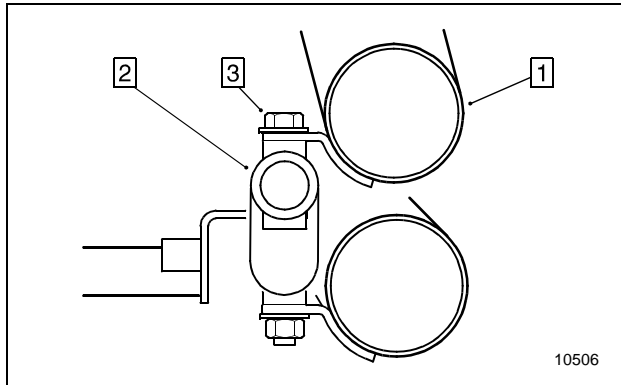

Figure 4
15. Attach the rear short-cut pipe above the rear mounting bracket (see Figure 4).